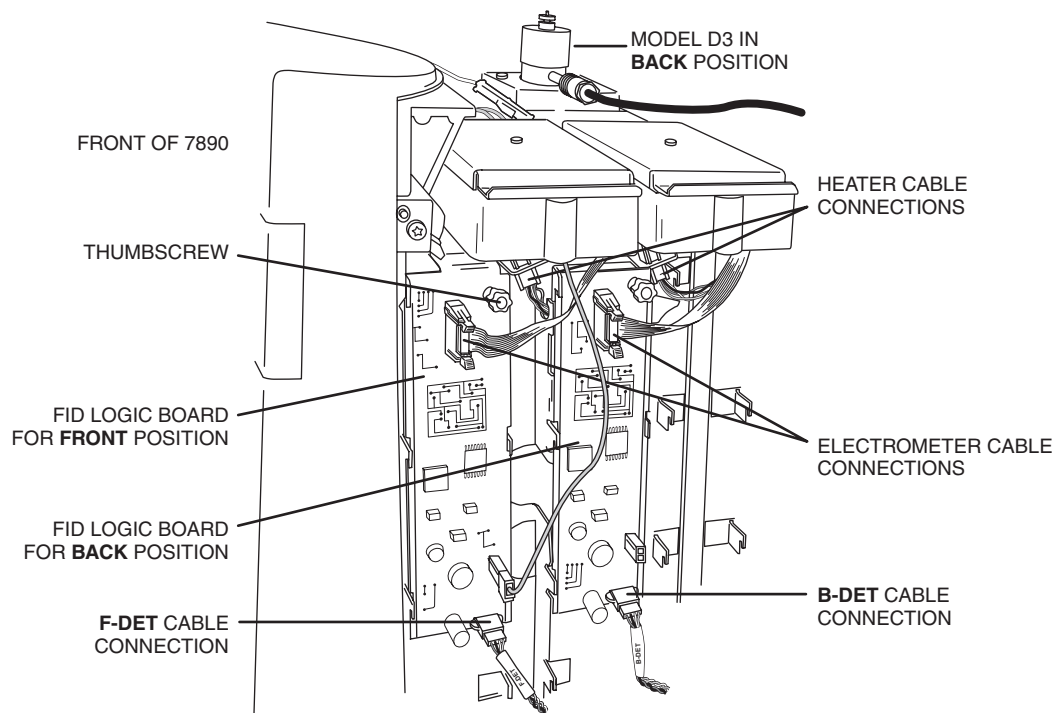

Figure 5: 7890 FID logic board
1. Refer to the GC manual for instructions on removing access panels. Install the FID logic board as illustrated in **Figure 5**, at the location corresponding to the detector mounting position (front or back). Secure the thumb screw at the top right corner.
2. Connect the heater/sensor cable and the electrometer ribbon cable to the FID logic board as shown in **Figure 5**.